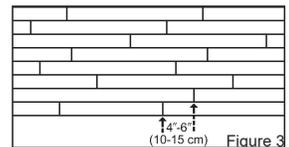

Figure 3
**Tramex Concrete Moisture Encounter Meter** (Figure 2): Moisture readings should not exceed 4.5 on the upper scale. (Figure 3 shows an unacceptable reading of over 4.5) Concrete Moisture Meters give qualitative reading results-not quantitative ones. These results are a quick way to determine if further testing is required.
- Be attentive to staggering the ends of the boards at least 4"-6" (10-15 cm) when possible, in adjacent rows (Figure 3). This will help ensure a more favorable overall appearance of the floor.
- End-joints of adjacent rows should be staggered a minimum of 4'-6" (10-15 cm) when possible, to ensure a more favorable overall appearance (Figure 3).
- Check for a tight fit between all edges and ends of each plank. End-joints of adjacent rows should be staggered 4'-6" (10-15 cm) when possible, to ensure a more favorable overall appearance (Figure 3).